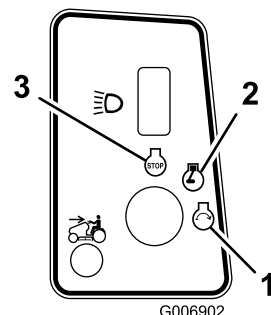

Figure 10
5. Turn the ignition key clockwise and hold it in the Start position (Figure 10). When the engine starts, release the key.
2. Turn the ignition key to Off, wait for all moving parts to stop, and remove the key before leaving the operating position. (Figure 10).